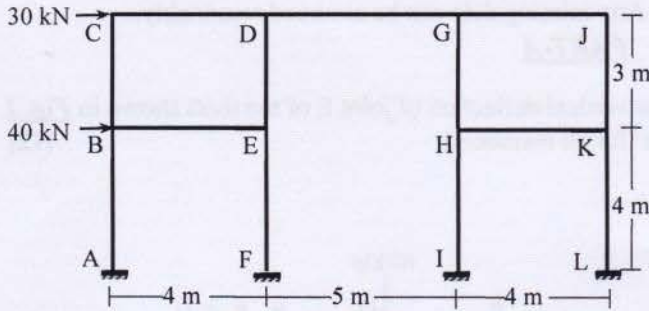

Fig.6
5. Use Cantilever Method to draw the axial force, shear force and bending moment diagrams of the frame **GHIJKL** shown in **Fig.6**. [10]